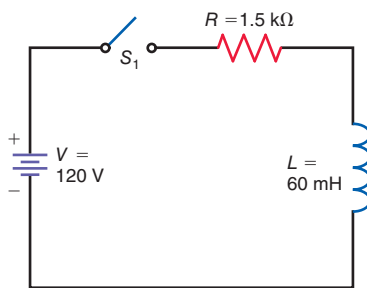

Figure 21-14
- 21.3** In Fig. 21-14,
- 21.6** Assume that the switch, S_1 , in Fig. 21-14 has been closed for more than five L/R time constants. If a 1-M Ω resistor is placed across the terminals of the switch, calculate
- 21.7** Without a resistor across S_1 in Fig. 21-14, is it possible to calculate the time constant of the circuit with the switch open? Also, what effect will probably occur inside the switch when it is opened?